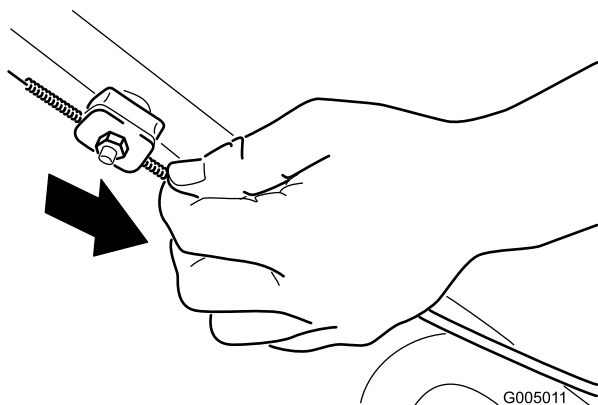

Figure 25
2. Pull down the cable jacket (toward the mower) until there is no slack in the cable (Figure 25).